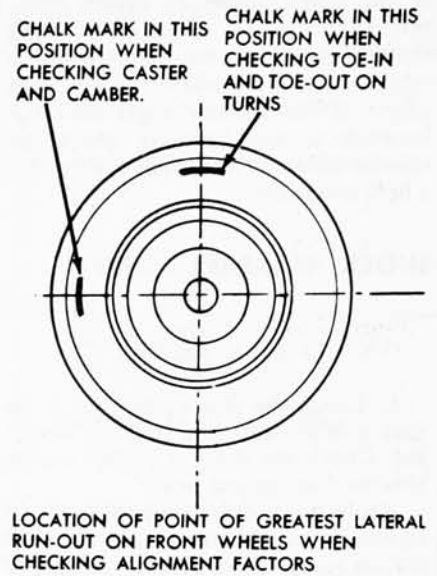

FIG. 4—Front Wheel Position For Checking Alignment
1. Check the runout of each front wheel and tire using a dial indicator against the rim outer band. If the runout exceeds 1/8 inch, correction may be made by rotating the wheel on the drum. When the minimum runout has been obtained, mark the point of greatest runout so the wheels can be positioned as shown in Fig. 4 when checking the front end alignment. Hold a piece of chalk against the wheel rim or the tire sidewall while spinning the wheels. The chalk will mark the rim or tire at the point of greatest runout.